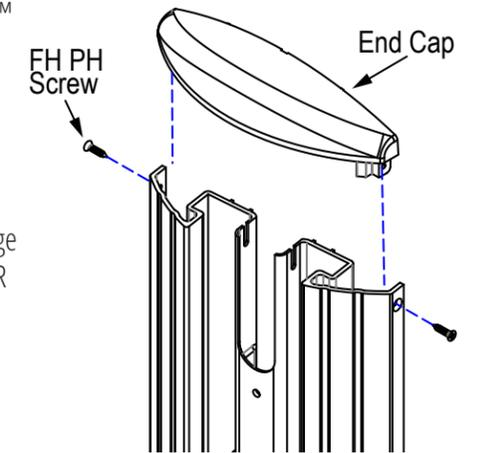

Figure 4.1 End Cap and Actuation Bar Removal
1. Unpack the pre-assembled unit from the box. To mount the switch, it is required to disassemble a few components. Firstly, remove two Phillips screw holding the top End Cap in place. Once both screws are removed, take out the cap. (Figure 4.1)